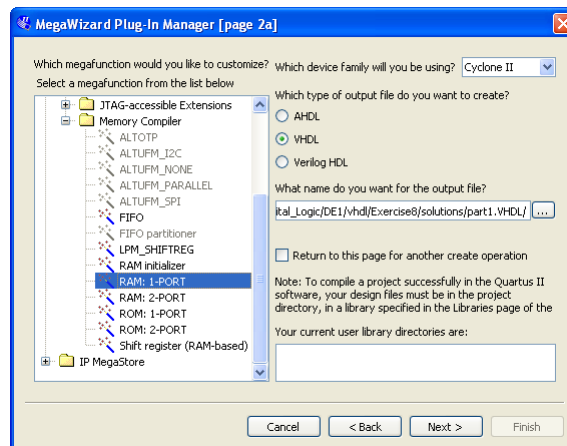
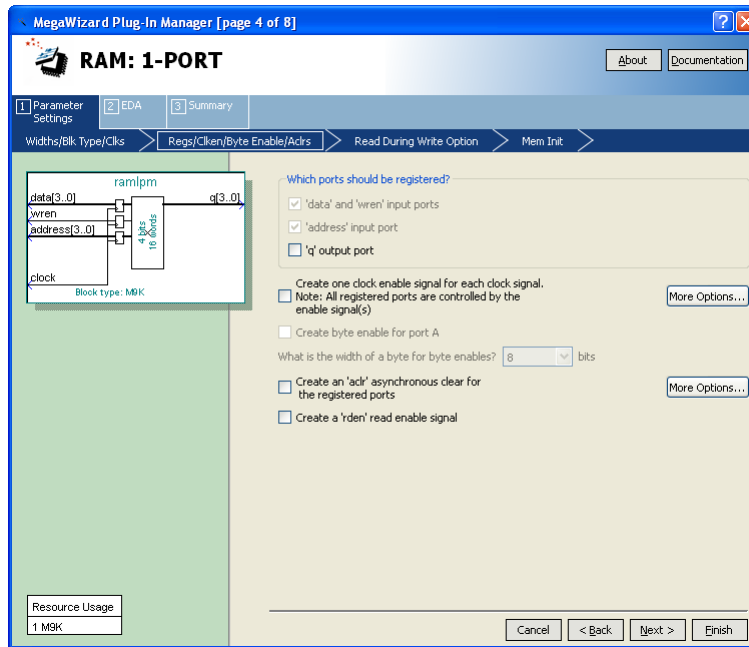

Figure 2: Choosing the *RAM: 1-PORT* LPM.
Figure 3: Configuring input and output ports on the *RAM: 1-PORT* LPM.
2. You can learn how the MegaWizard Plug-in Manager is used to generate a desired LPM module by reading the tutorial *Using Library Modules in VHDL Designs*. This tutorial is provided in the University Program section of Altera's web site. In the first screen of the MegaWizard Plug-in Manager choose the *RAM: 1-PORT* LPM, which is found under the Memory Compiler category. As indicated in Figure 2, select VHDL HDL as the type of output file to create, and give the file the name *ramlpm.vhd*. On the next page of the Wizard specify a memory size of 16 four-bit words, and select M4K as the type of RAM block. Advance to the subsequent page and accept the default settings to use a single clock for the RAM's registers, and then advance again to the page shown in Figure 3. On this page *deselect* the setting called 'q' output port under the category Which ports should be registered?. This setting creates a RAM module that matches the structure in Figure 1b, with registered input ports and unregistered output ports. Accept defaults for the rest of the settings in the Wizard, and then instantiate in your top-level VHDL file the entity generated in *ramlpm.vhd*. Include appropriate input and output signals in your VHDL code for the memory ports given in Figure 1b.